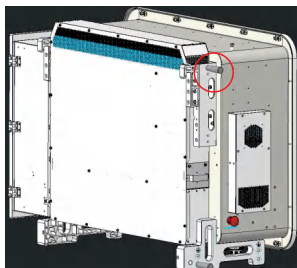

Figure 5.9 Inverter handle
2. The position of handrails installation as the red mark in figure 5.9.